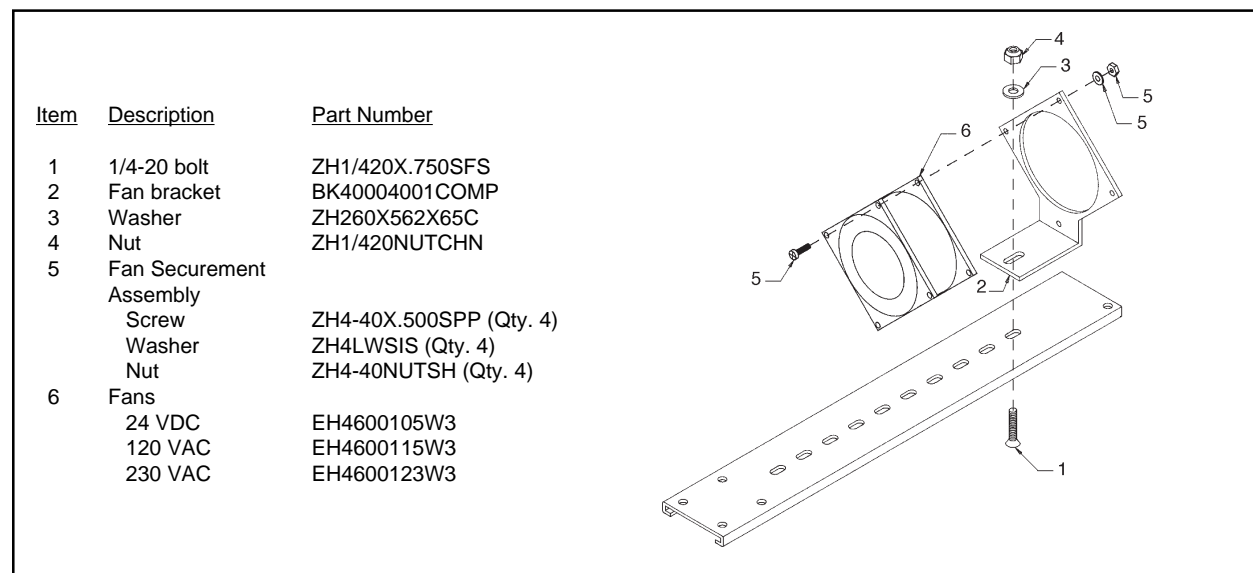

Figure 1. BKMT10 Series Blower Kit Installation
2. Assemble blower/blower bracket to sled as shown in Figure 1, items 1–4.